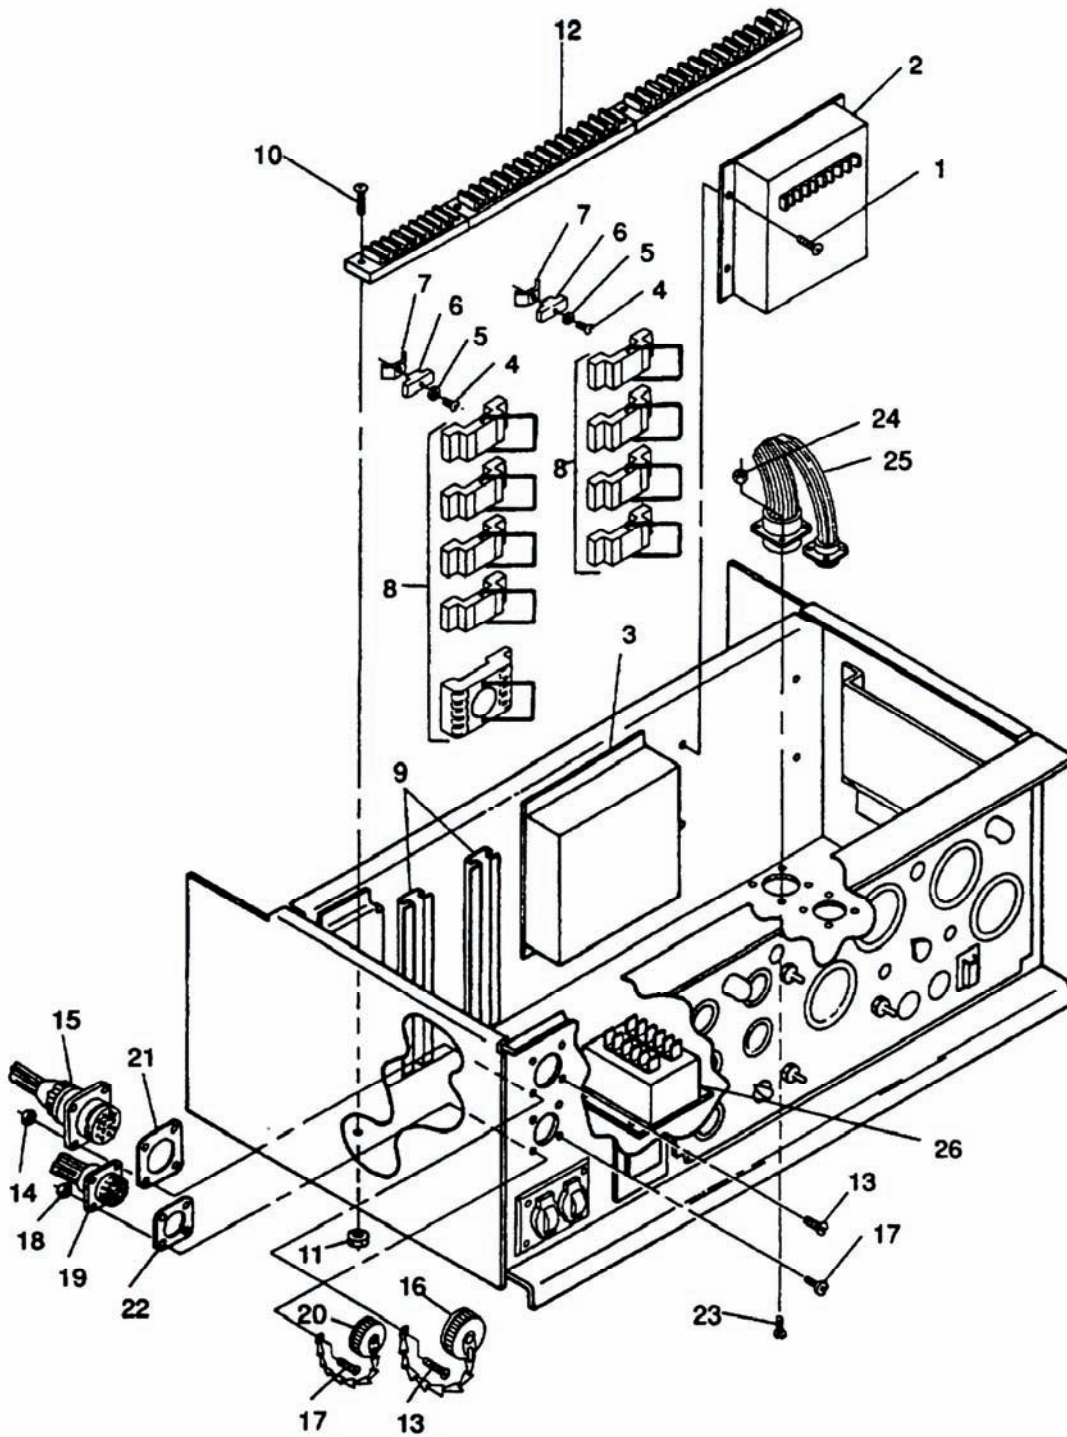

Figure 4-1. Control Box Components.
- (1) Turn OVERSPD control potentiometer CW one turn for each hertz generator set shut down prior to lower frequency limit.
- (2) Activate OVERSPD RESET switch.
- (3) Repeat steps h and i above.
- q. Set multimeter for DC volts and connect to terminals 11 and 12 of governor control unit (3, Figure 4-1).
- (1) Turn GOV GAIN potentiometer to its full CW position.
- (2) Momentarily actuate and turn off LOAD switch on control panel.
- (3) Observe strip chart on recorder for frequency oscillation (hunting). If required, slowly turn GOV GAIN CCW until frequency oscillation disappears.
- f. Remove screws (4, Figure 4-1), washers (5), insulators (6), and clips (7).
- g. Tag and remove sockets (8) from tracks (9).
- h. Remove screws (10) and nuts (11) to free terminal boards (12).
- i. Tag and disconnect electrical leads from AC voltage regulator (2) and governor control unit (3).
- k. Tag and disconnect electrical leads to CONVENIENCE RECEPTACLE (20), GROUND FAULT CIRCUIT INTERRUPTER (23), and connector to malfunction indicator panel (27).
- m. Remove screws (13 and 17, Figure 4-1), nuts (14 and 18), caps (16 and 20), diagnostic connector (15), parallel connector (19), and gaskets (21 and 22) from control box panel.
- n. Remove screws (23) and nuts (24) from harness connectors and remove harness assembly (25) from control box.
- a. Position control box wiring harness assembly (25, Figure 4-1) in control box.
- b. Secure harness connectors to control box with screws (23) and nuts (24).
- c. Install gaskets (21 and 22), diagnostic connector (15), parallel connector (19), and caps (16 and 20) in control box panel with screws (13 and 17) and nuts (14 and 18).
- f. Connect electrical leads, as tagged during removal, to watt transducer (43), load measuring unit (72), reverse power relay (52), permissive paralleling relay (54), resistor-diode assembly (74), short circuit/overload relay (50), frequency transducer (41), overvoltage/undervoltage relay (48), DC CONTROL POWER circuit breaker (38), BATTERY CHARGER FUSE assembly (32) (MEP-804A/MEP-814A)/BATTERY CHARGER CIRCUIT BREAKER (35) (MEP-804B/MEP-814B), OVERSPEED RESET switch (10), FREQUENCY SELECT switch (14), REACTIVE CURRENT ADJUST rheostat (3), LOAD SHARING ADJUST rheostat (7), and shunt (46). Remove tags.
- g. Connect electrical leads to AC voltage regulator (2, Figure 4-1) and governor control unit (3). Remove tags.
- h. Secure terminal boards (12) to control box with screws (10) and nuts (11).
- i. Position sockets (8) on tracks (9) as tagged during removal.
- j. Secure sockets (8) to tracks (9) with clips (7), insulators (6), washers (5), and screws (4). Remove tags.
- f. Set multimeter for DC volts and connect positive lead to terminal 11 of load measuring unit (26, Figure 4-1) and negative lead to terminal 12.